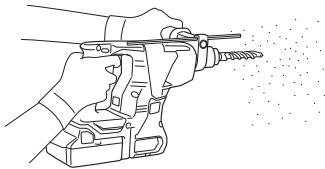

Fig. 15
- (1) Mount the drill bit.
- (2) Pull the trigger switch after applying the drill bit tip to the drilling position (Fig.15).
- When the drill bit touches construction iron bar, the bit will stop immediately and the rotary hammer will react to revolve. Therefore please grip the side handle and handle tightly as shown in Fig. 15.